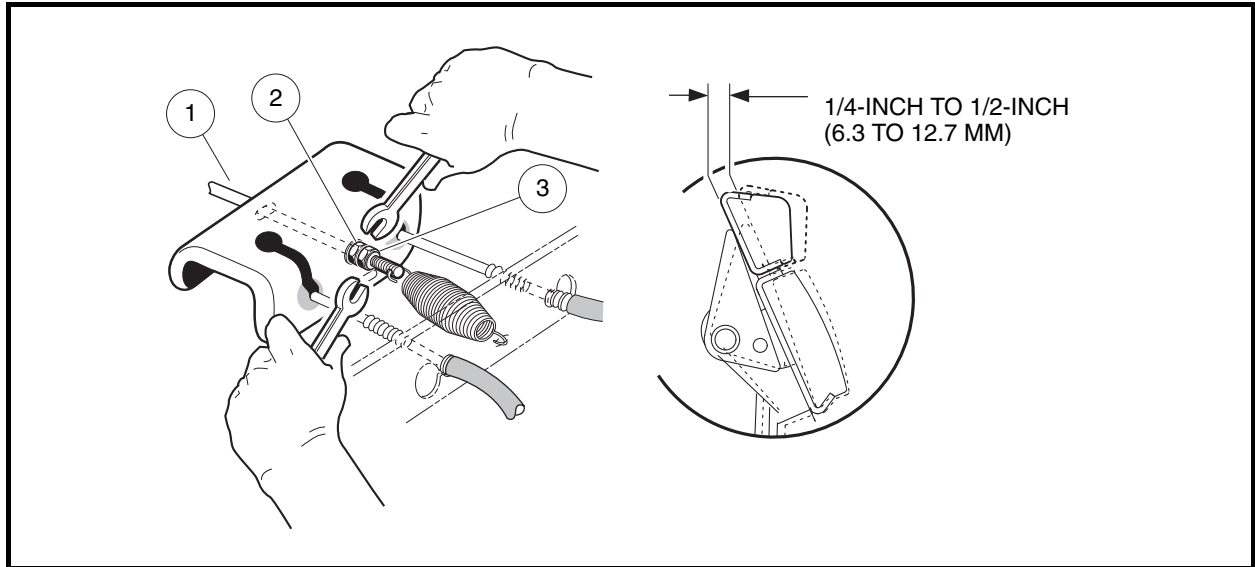

Figure 6-18 Brake Pedal Free Play Adjustment
- 3.1. Measuring perpendicular from the floorboard to the back of the brake pedal, press the brake pedal and measure the distance that the pedal moves before all of the slack is taken out of the brake cables (**Figure 6-18, Page 6-9**).